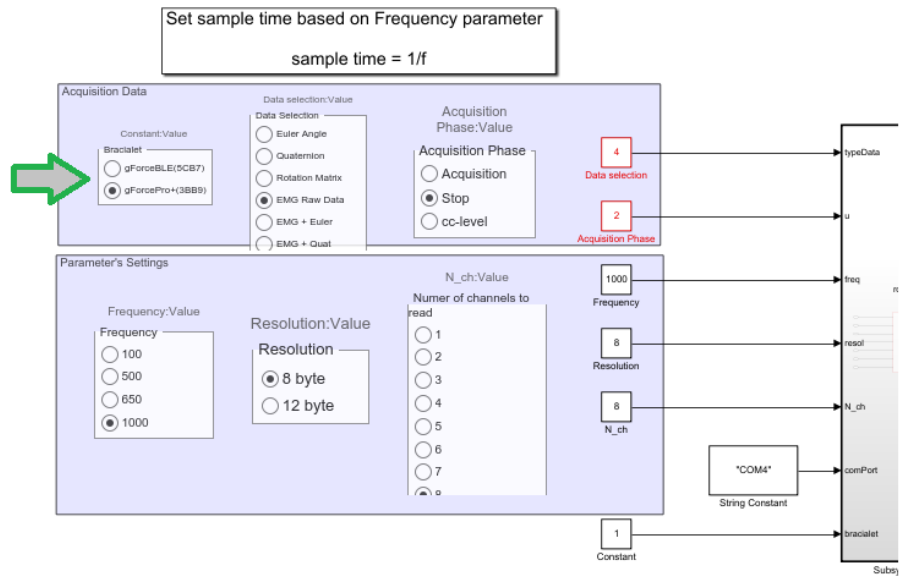

Figure 4: Acquisition Data Setting
5. in 'gForce_data_acquisitionn_ccOnline_ROS_v2_1.slx' [Acquisition Data] (Figure 4) → 'Braccialet' set the correct braccialet you are using